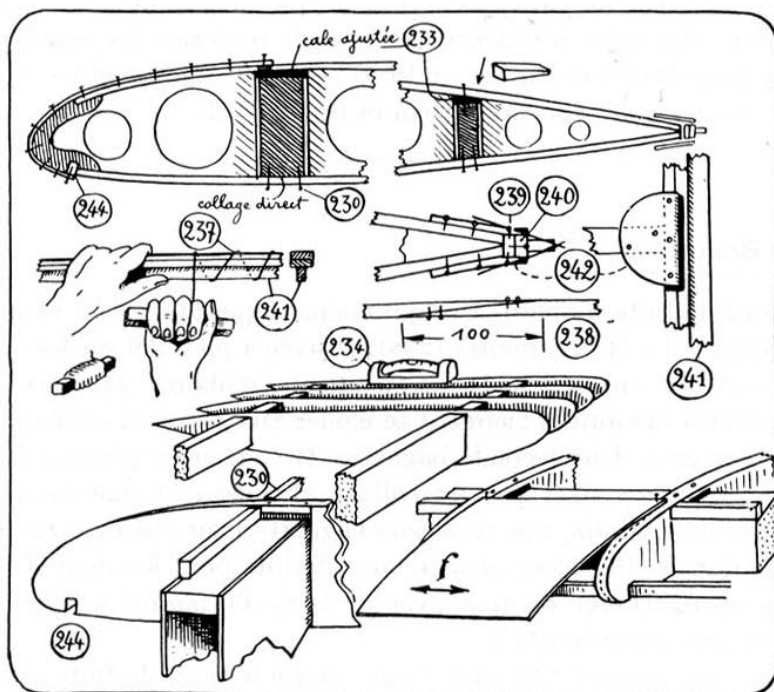

Figure 4.6: Assembling the wings
A 6×12 strip is laid from end to end in the notches (244) cut under the nose of each rib. Pieces of 6×12 strip are then placed on edge (230). This refers to (230) at the bottom of Figure 4.6, not the one at the top. between each pair of ribs along the front of the spar. Then wrap the rounded top of the ribs with 1.5mm plywood, the grain of which should run along the wingspan, gluing from (230) to (244). It is wise to only cover one bay (*i.e.* 300mm) at a time, either butting the plywood sheets at the middle of each rib, which gives 6mm gluing area for each, or by overlapping slightly beveled edges; *i.e.* a scarf joint.